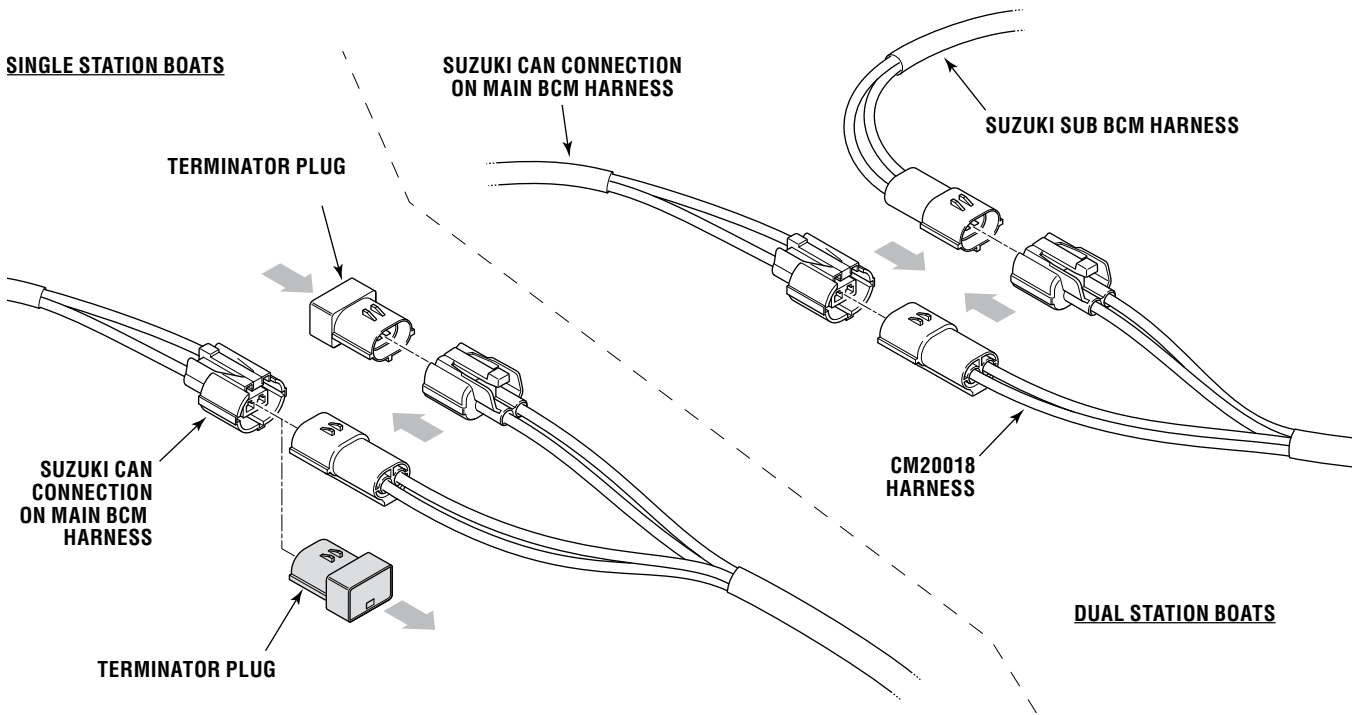

Figure 6-4. CM20018 connection to Suzuki CAN network.
*Single station boats* – the connector will have a male network terminator plug installed in it. Remove the terminator plug and insert the CM20018 harness plug labeled '1st Station'. Install the terminator plug in the CM20018 harness receptacle labeled '2nd Station'. See figure 6-4.
*Dual station boats* – The connector will be connected to the Suzuki Sub BCM harness. Break the connection and connect the two halves to the CM20018 harness plugs. The Sub BCM harness will connect to the plug labeled '2nd Station' and the Main BCM harness to the plug labeled '1st Station.' See figure 6-4.